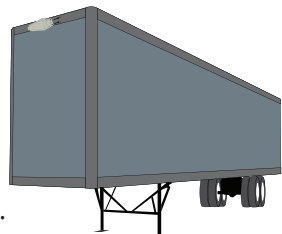

Fig. 2
**2. Select** a device mounting location on the trailer top rail. (Fig.2)
**4.** Using the device mounting flanges as a template, **mark** the location for each of the mounting screws (4) onto the trailer's top rail.